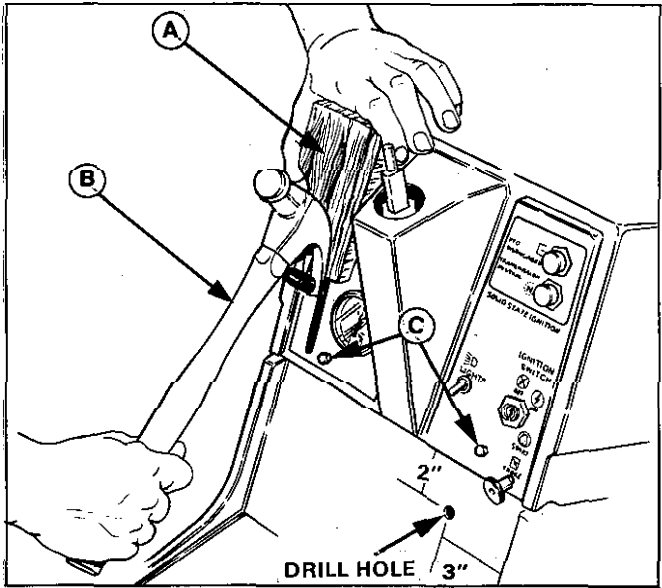

Figure 6. Tractor Dash
16. A **31/64"** hole must be drilled in the lower dash to mount the switch (see figure 6). Measure two inches down from upper dash and draw a line. Then, measure three inches from right side of lower dash and draw a vertical line. Drill the hole at point **where** these two lines meet (figure 6).
17. Pry off the throttle control knob by using a claw hammer and block of wood as shown in figure 6.
- a. Remove the **two** screws (C, figure 6) and washers.